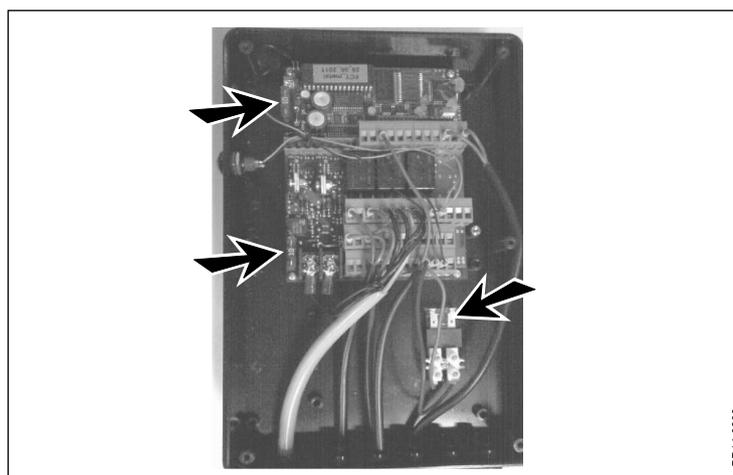

Fig. 7-6
**Fig. 7-6** There are two 10A fuses and one 5A fuse in the MD control unit. Only replace the fuses by fuses with the same power value. Servicing, except replacement of fuses, must always be performed by an authorised JF dealer / service technician.